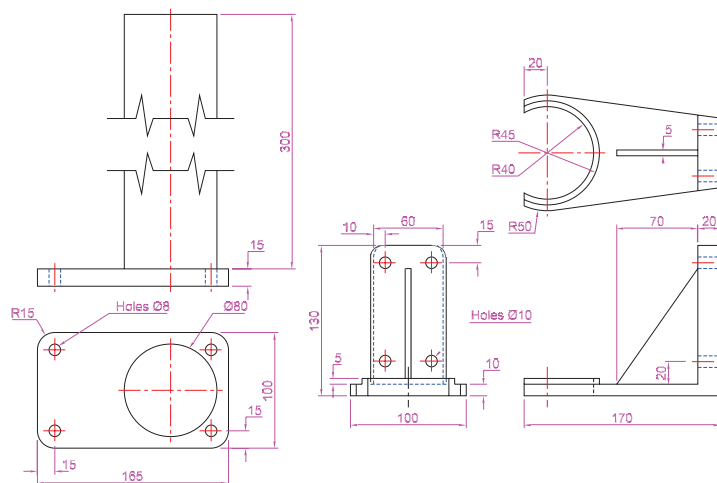

Fig. 15.38 Second example – Rendering – orthographic projection
1. Construct 3D models of the two parts of the stand and support given in the projections shown in Fig. 15.38 with the two parts assembled together.
1. Open the file of the second example of rendering (Fig. 15.38).